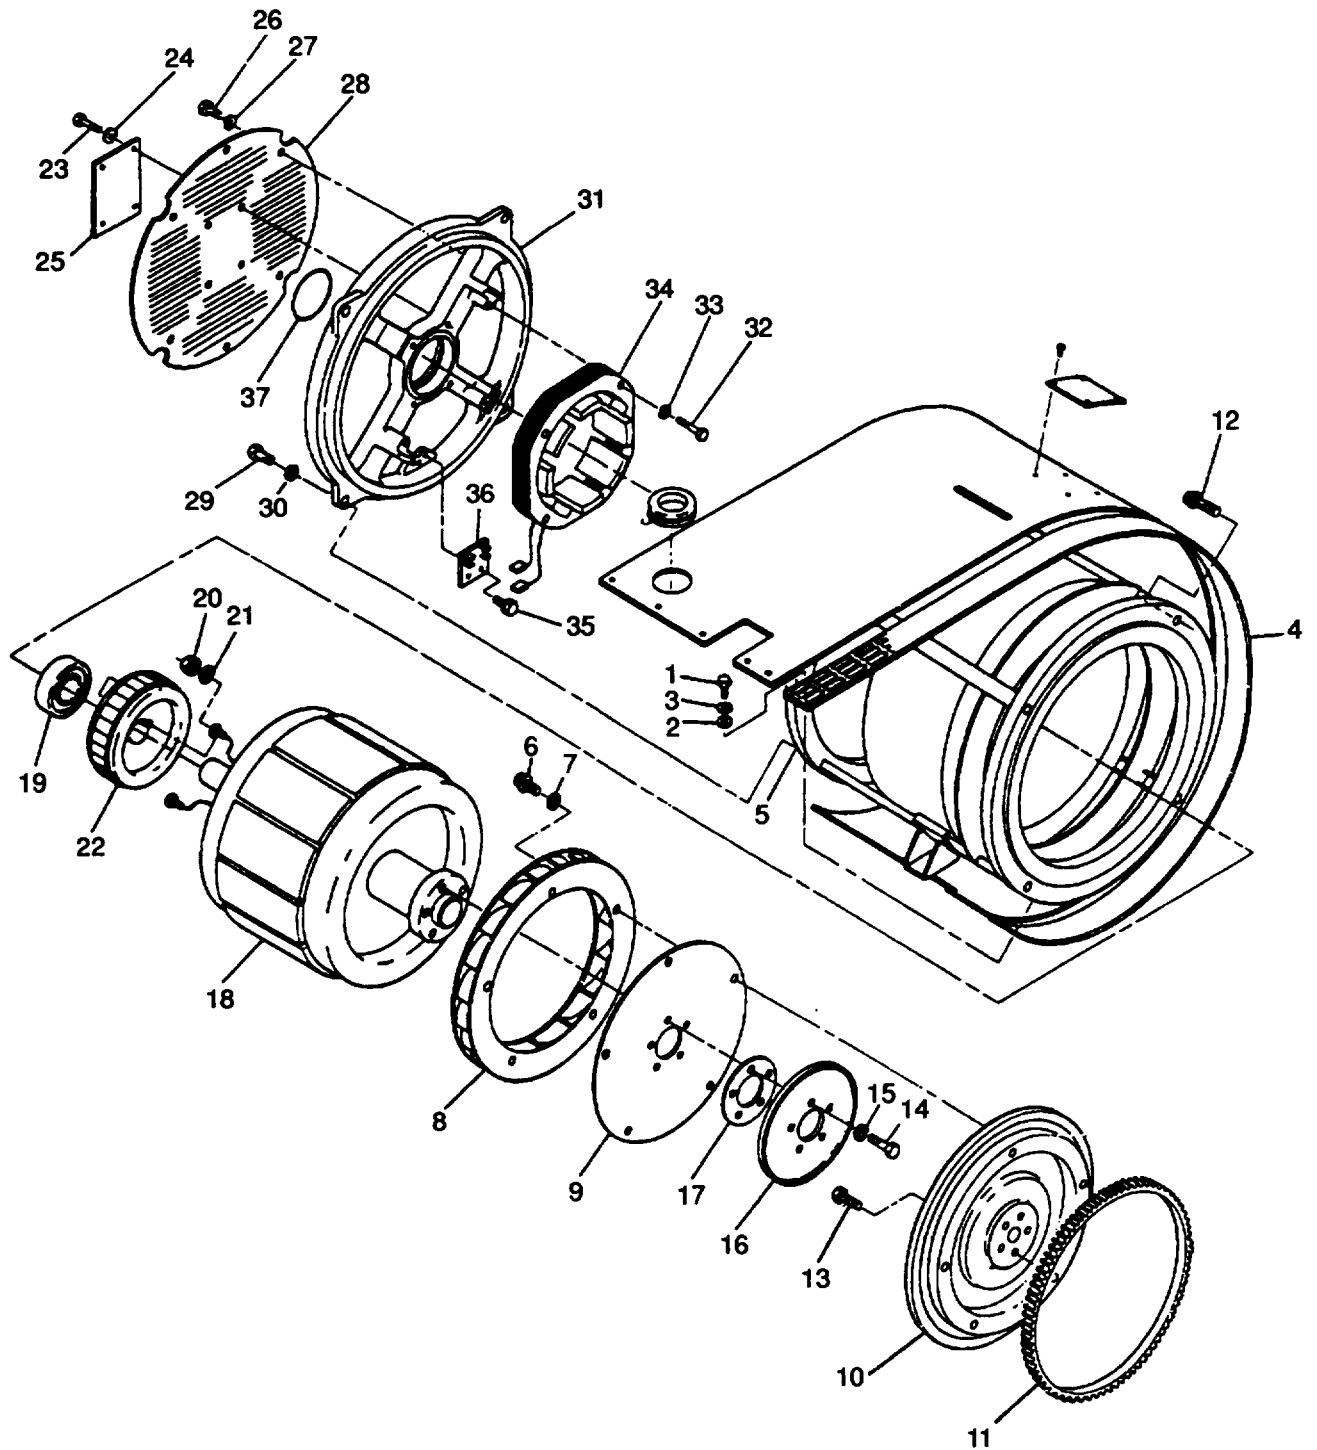

Figure 4-25. Generator Assembly (MEP-812A)
- e. Remove bolt (1, Figure 4-25), washer (2), lockwasher (3), and screen (4) from generator frame/stator assembly (5).
- a. Using overhead lifting device, carefully lift and position generator assembly on work table with end bell (31, Figure 4-25) resting on table.
- b. Remove bolts (14), lockwashers (1 5), retention disk (16), spacer (1 7), drive plate (9), and fan (8) from rotor assembly (18).
- a. Inspect end bell assembly (31, Figure 4-25) for cracks, torn packing (37), broken terminal board (36), and other damage.
- b. Inspect exciter stator (34) for broken windings, evidence of overheating, damaged insulation, and loose terminal ends.
- c. Inspect bearing (19) for looseness and evidence of overheating.
- d. Inspect exciter rotor (22) for broken windings, evidence of overheating, damaged insulation, and other damage.
- e. Inspect rotor assembly (18) for broken windings, evidence of overheating, damaged insulation, and loose terminal ends.
- f. Inspect frame/stator (5) for broken windings, evidence of overheating, damaged insulation, loose terminal ends, and damaged housing.
- g. Inspect drive plate (9) and retention disk (15) for bends, cracks, elongated mounting holes, and other damage.
- h. Inspect flywheel (10) for cracks, broken teeth, stripped threads, and other damage.
- i. Inspect generator fan (8) for cracks, bent, or broken blades and other damage.
- a. If ring gear (11, Figure 4-25) is damaged, place the flywheel (10) on a solid flat surface.
- b. Drive ring gear (11) off with a brass drift and hammer.
- b. Coat mating area between bearing (19, Figure 4-25) and end bell (31) with grease (Item 9, Appendix C).
- c. Install packing (37), terminal block (36), and bolts (35) on end bell (31).
- d. Install exciter stator (34) on end bell (31) with lockwashers (33) and bolts (32).
- e. Attach exciter stator leads and AC voltage regulator leads to terminal block (36) and remove tags.
- f. Install end bell (31) on frame/stator assembly (5) with washers (30) and bolts (29). Torque bolts (29) 29 to 31 ft-lbs (39 to 42 Nm).
- g. Install cover (28) and retention plate (25) on end bell (31) with lockwashers (24) and (27), and bolts (23) and (26).
- h. Using overhead lifting device, reposition generator assembly on work table with end bell (31) resting on table.
- i. Using arbor press, press exciter rotor (22) on rotor assembly(18) to shoulder of shaft. Connect F1 + and F2-leads on rotating rectifiers with washers (20) and nuts (19). Torque nuts (20) 23 to 26 in-lbs (2.6 to 2.9 Nm). Remove tags.
- j. Press bearing (19) onto shaft of rotor assembly (18).
- a. Install flywheel (10, Figure 4-25) to engine crankshaft with bolts (13). Torque bolts (13) 48 to 53 ft-lbs (65 to 72 Nm).